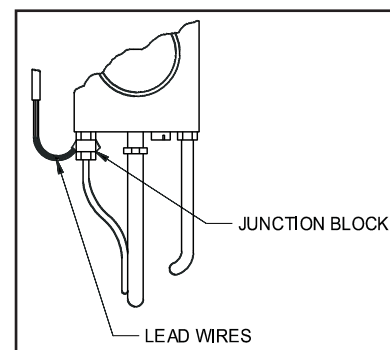

Figure 8
2. Thread the junction block into the thermocouple port and thermocouple into the bottom of the junction block. Connect lead wire from the junction block to the jacketed lead wires or wire enclosed in an accepted wiring enclosure. (See Figure 8)